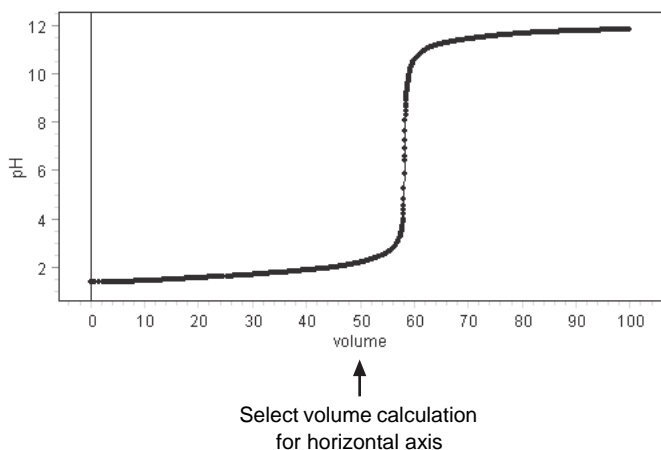

Figure 3: Graph of pH versus volume
15. In the graph, change the horizontal axis to the calculated “volume” (Figure 3).